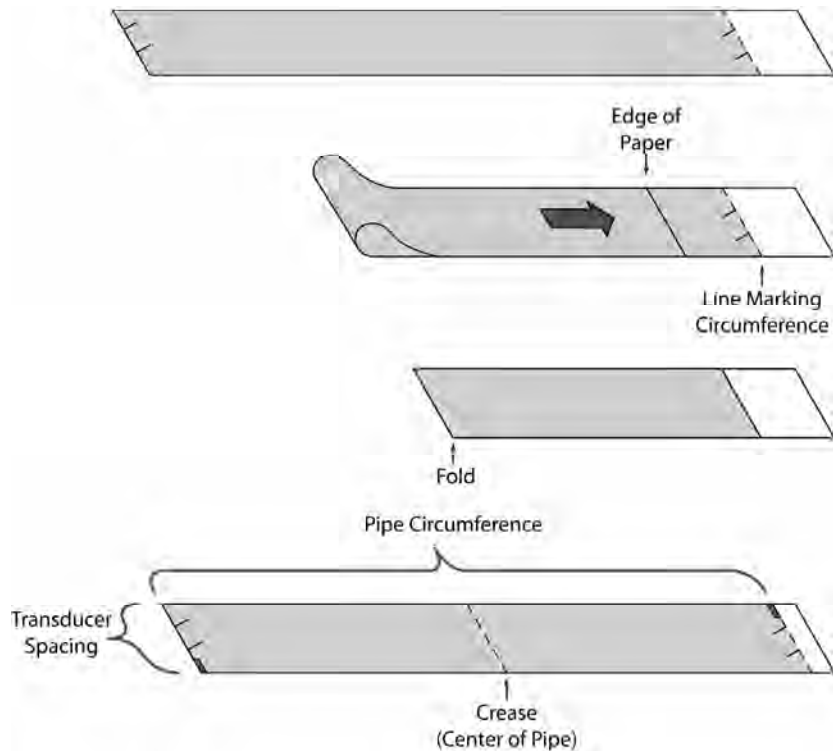

Figure 2.8
2. Mark the intersection of the two ends of the paper to indicate the circumference. Remove the template and spread it out on a flat surface. Fold the template in half, bisecting the circumference. See **Figure 2.8** on page 2.15.